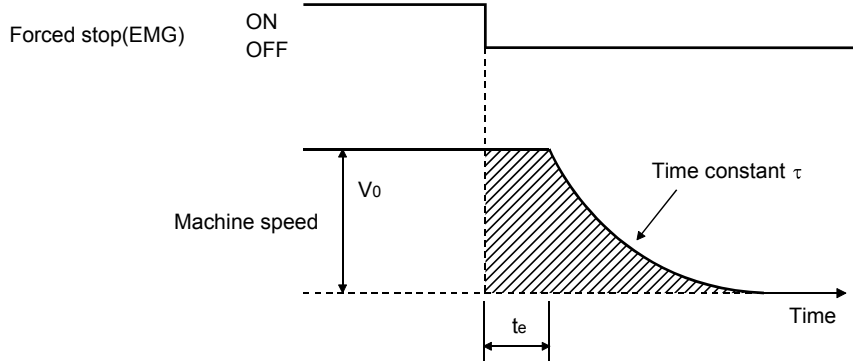

Fig. 12.3 Dynamic brake operation diagram
Fig. 12.3 shows the pattern in which the servo motor comes to a stop when the dynamic brake is operated. Use Equation 12.2 to calculate an approximate coasting distance to a stop. The dynamic brake time constant  $\tau$  varies with the servo motor and machine operation speeds. (Refer to (2)(a), (b) in this section.)